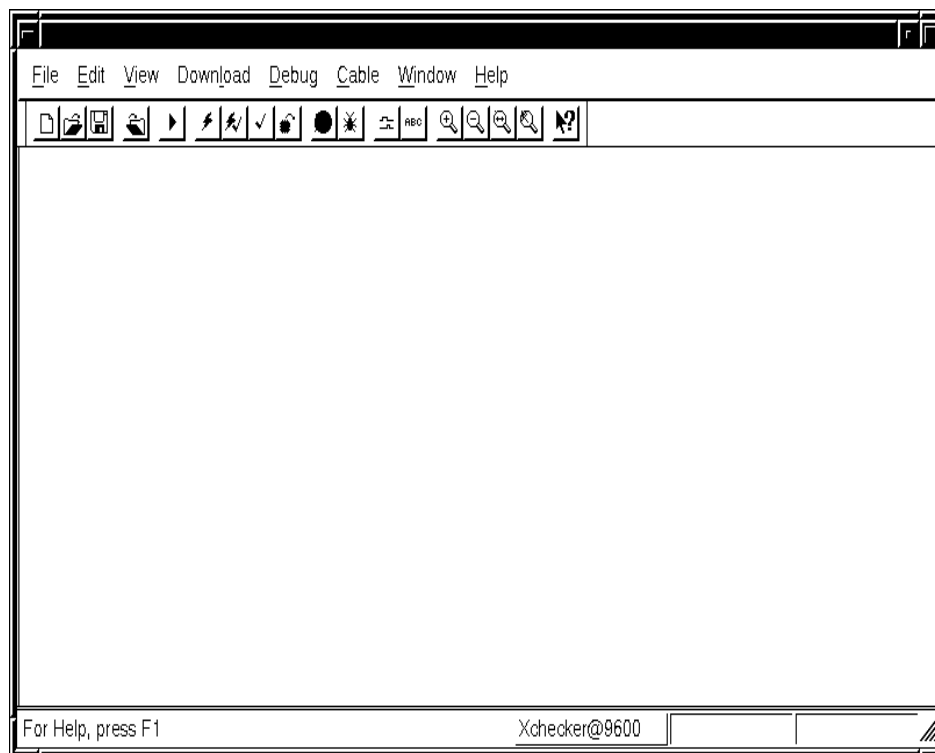
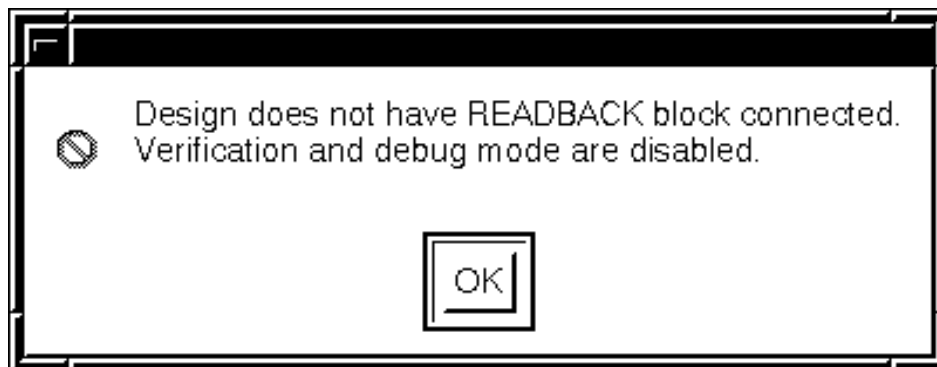

Figure 31: Hardware Debugger.
Figure 32: Verification and Debug notice.
(1) At this point, you must be using a workstation which has the required Xchecker cable connecting the workstation's serial port and the demo board. With the half\_adder project still open, select Tools -> Hardware Debugger from the Design Manager's menu bar. The Hardware Debugger window will appear as shown in Figure 31. An additional window will appear (see Figure 32) with the notice that the design does not have a READBACK block connected. This is normal. Select OK in this window to continue.